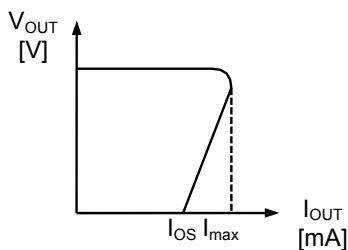

Figure 18
The S-87x Series has a built-in short-circuit protection circuit to protect the element from break caused by a large current in case of a short circuit. The output short current is internally limited to approx. 70 mA. Short-circuit protection circuit has three kinds characteristics according to input voltage (VIN) as shown in Figure 18 to 20.
- (1) At the time of voltage detection, the voltage regulator is shutdown and load current is cut. Therefore, VIN pin voltage increases by $\Delta V_{IN} = I_{IN} \times R_{IN}$, where the current flowing into R_{IN} is set to I_{IN}. Hence, if ΔV_{IN} exceeds hysteresis width (V_{HYS}), oscillation starts immediately after detection and continues. It is necessary to set ΔV_{IN} less than V_{HYS}.
- (2) At the time of voltage release, the voltage regulator is powered on and load current flows. Therefore, if ΔV_{IN} exceeds hysteresis width (V_{HYS}), oscillation starts immediately after release and continues. It is necessary to set ΔV_{IN} less than V_{HYS}. Also at the time of voltage release, the rush current to charge output capacitor (C_{OUT}) flows. Hence, oscillation momentarily starts until the output of regulator (V_{OUT}) rises high enough even though ΔV_{IN} is set less than V_{HYS}. But Short-circuit protection circuit controls the rush current less than I_{MAX} on Figure 18 to 20. If this momentary oscillation is a problem in your application, setting R_{IN} less than V_{HYS}/I_{MAX} prevents oscillation.